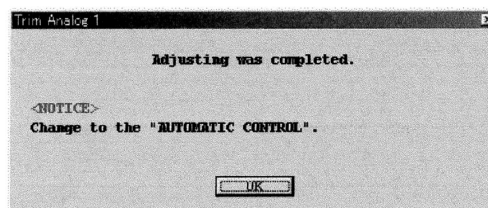

Fig.109
- ⑥ Clicking on "Cancel" button brings an end to analog output trim. A message box "Trimming is completed" as shown in Fig. 109 appears. Click on "OK" button.